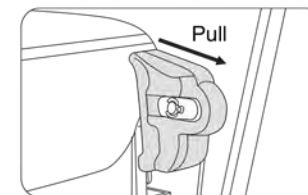

Figure 4
- The calf rest decoration cover is a card slot design; please make an effort to pull it when disassembling. (Figure 4)